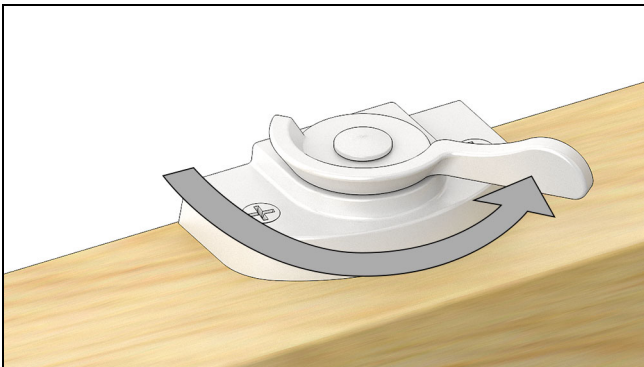

Figure 64
1. Rotate lock handle to 135° position to unlock. See Figure 64.